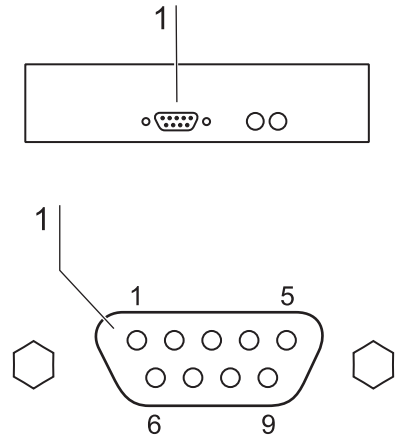

Fig. 11
2. **Fig. 11:** Connect the connector of the serial interface cable (not comprised in the scope of delivery) to the socket [1] at the supply interface at the front of the electrical box.